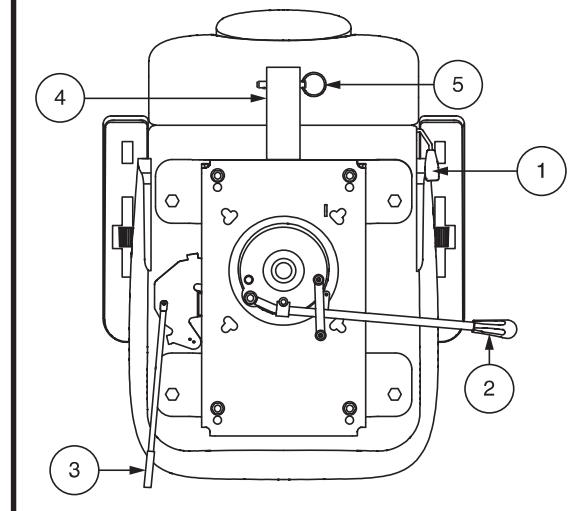

Figure 19. Seat Adjustments
If your vehicle is equipped with a reclining seatback, you can adjust the seatback angle with the seatback adjustment lever. See **figure 19**.
1. Depending on your seat type, either pull upward or push forward on the seat rotation lever to disengage the seat. See **figure 19**.
1. Move the seat sliding lever located at the lower left side of the seat outward. See **figure 19**.
There is an armrest adjustment located on the underside of each armrest. See **figure 19**. Turn the armrest adjustment to the left to lower the armrest angle or to the right to raise the armrest angle.
The rear-mounted accessory bracket allows you to attach a personal accessory such as a basket, walker holder, or oxygen tank to the back of your vehicle. Use the detent pin to securely mount your item to the accessory bracket. See **figure 19**. See your authorized dealer for details.